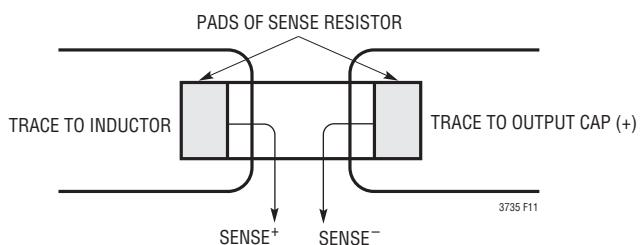

Figure 11. Proper Current Sense Connections
3) Are the $SENSE^-$ and $SENSE^+$ leads routed together with minimum PC trace spacing? The filter capacitors between $SENSE^+$ and $SENSE^-$ pin pairs should be as close as possible to the LTC3735. Ensure accurate current sensing with Kelvin connections at the current sense resistor. See Figure 11.